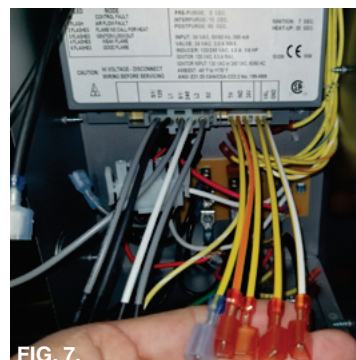

FIG. 7.
7. Connect the last wire adapter (P/N 476206) to the lower right side of the ICM (see Fig. 7.). **Notice that the new ICM no longer has the 24V or R connection of the ICM in the upper left side. The 24 V is now in the multi pin connector header. Additionally, one location of the multi-pin connector is not in use, which is in between 24V and VAL.**